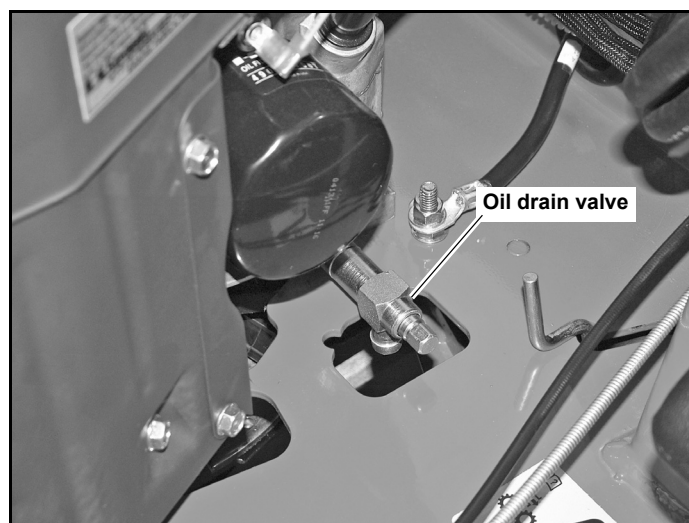

Figure 4-4
1. Locate the oil drain valve on the engine. Figure 4-4